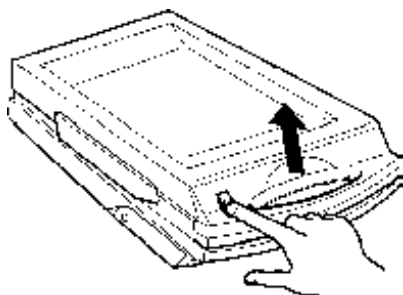

Figure 4-6. Unlocking the cassette.
1. Refer to Figure 4-6. Open the cassette by simultaneously pressing the release button and lifting the lid. Flip the lid back fully allowing it to rest on the table or other flat surface.